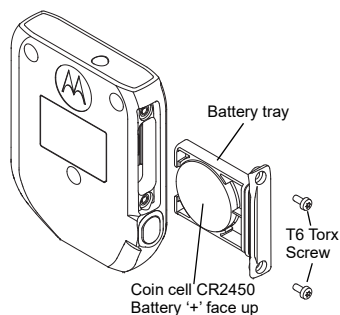

Figure 2: PMLN7848
1. Unscrew the battery tray as shown in Figure 2.